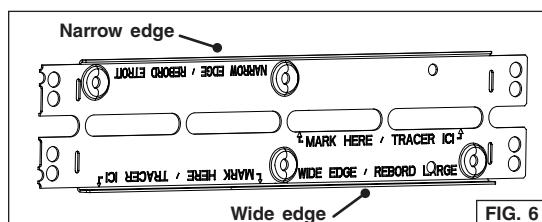

FIG. 6
**NOTE:** Both cabinet brackets have one wide edge and one narrow edge (FIG. 6), to cover all installation configurations depending on cabinet widths.